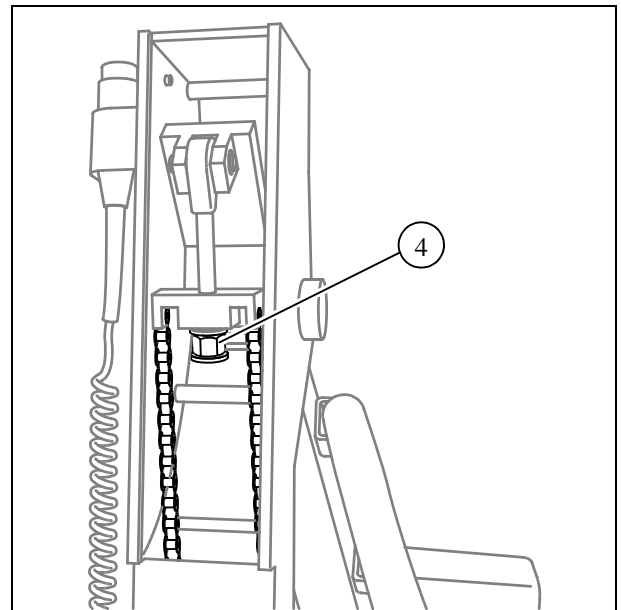

Fig. 21
- Tighten the screw using a 17 mm Allen key (4/Fig.21).